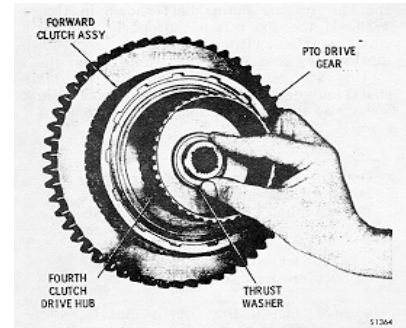

Fig. 7-23. Installing thrust washer at rear of forward clutch hub
(1) Install the thrust washer onto the hub of the forward clutch assembly, retaining it with oil-soluble grease (Fig. 7-23).
(2) Install forward clutch and turbine shaft assembly 5 (A, foldout 6). The hub splines engage the transmission main shaft. The splines on the fourth clutch drive hub engage the internal-splined plates of the fourth clutch.